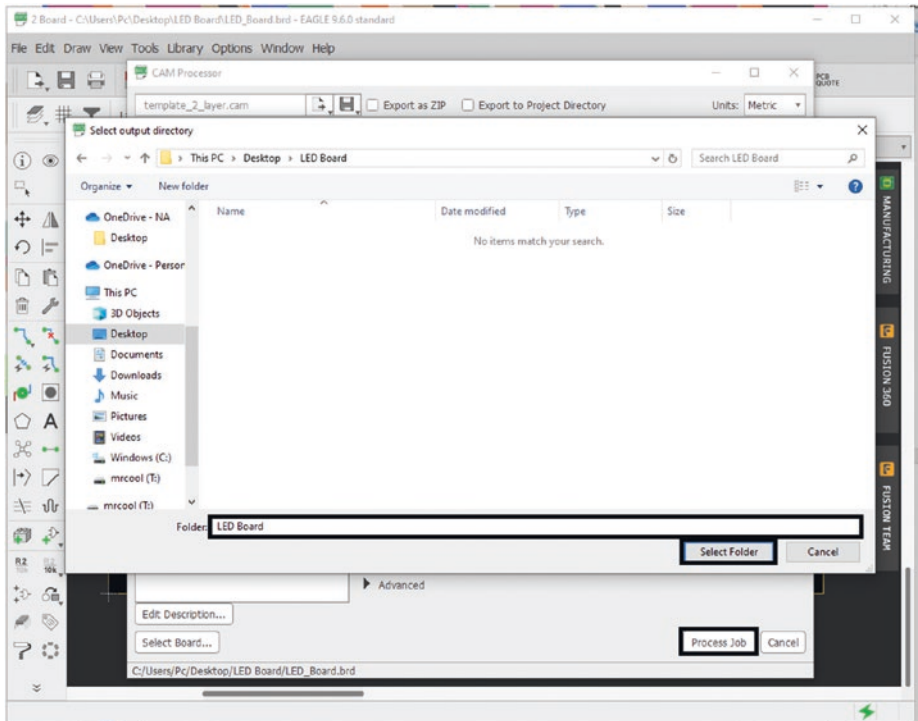

Figure 5-83. Save Gerber files
5. Click the “Process Job” button, and Gerber files will be generated after you select where you want them to be stored and what name you want to give them. See Figure 5-83.